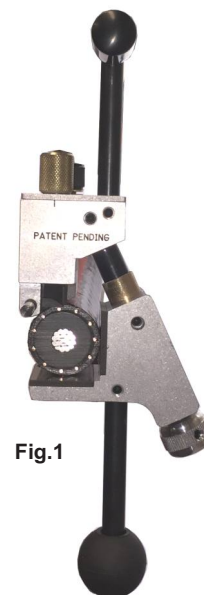

Fig.1
2. **Secure the tool onto the cable.** Clamp the tool on the cable with the blade's leading cutting edge slightly overhanging the cable end. Fig.1
3. **Set the blade depth** .015-.020" above the concentric wires or metallic shielding. Fig.1